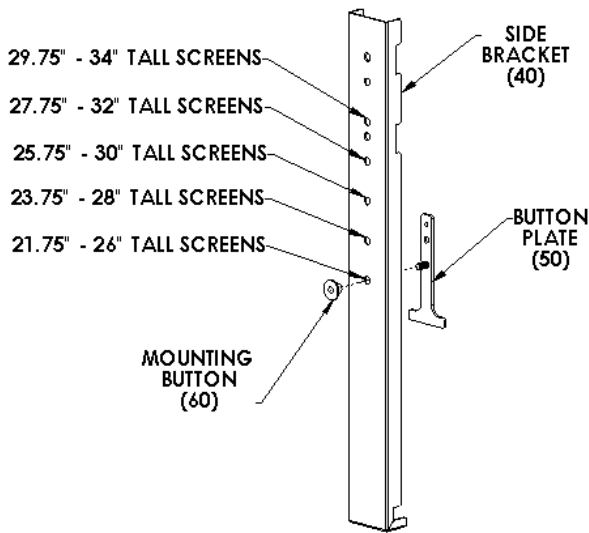

Figure 5. Adjust Button Plate on Side Plate
2. Attach mounting button (60) and button plate (50) to bottom side bracket (40) using the correct hole depending on screen height. See Figure 5.